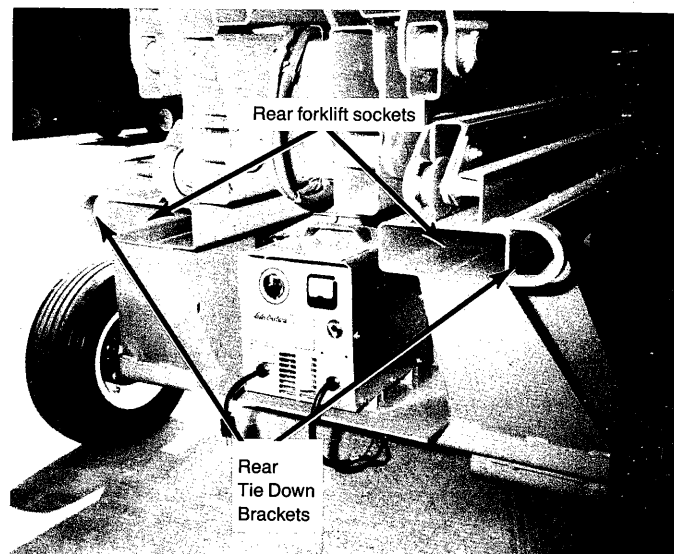

Figure 8. XL-19CW and XL-24C
1. Forklift from rear end of work platform by using the frame sockets (Figures 8, 9 and 10).